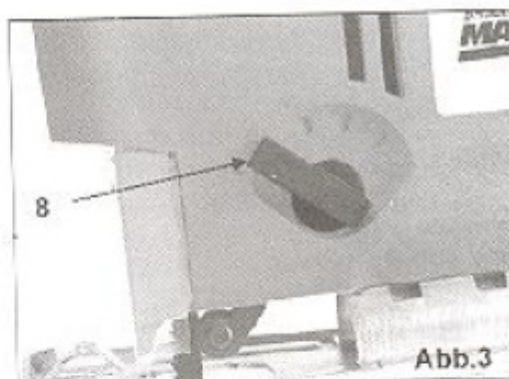

Abb.3
6.) Orbital cut adjustment (Fig.3)